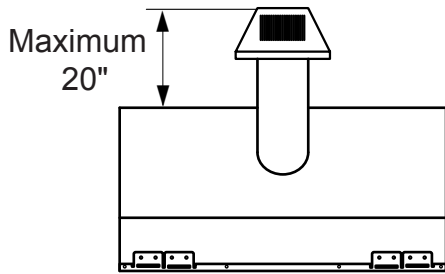

Figure 11 - Rear Vent Application, Maximum Horizontal Distance
The maximum horizontal distance between the rear of the appliance and the outside of termination is 20" (508 mm). See Figure 11.
1. Locate and cut the vent opening in the wall. For combustible walls first frame in opening. See Figure 11.
3. Attach vent pipe assembly to the fireplace. Set fireplace in front of its permanent location to insure minimum clearances. Mark the wall for a 10½"H x 10½"W (267mm x 267mm) square hole (for noncombustible material such as masonry block or concrete, a 8½" [216mm] diameter hole is acceptable). See Figure 11. The center of the hole should line up with the center line of the horizontal rigid vent pipe end. Be sure to allow for minimum rise. Cut a 10-1/2"x10-1/2" (267mm X 267mm) square hole through combustible exterior wall (8 ½" [216mm] diameter hole if noncombustible). Frame as necessary. Allow ¼" minimum rise per foot.